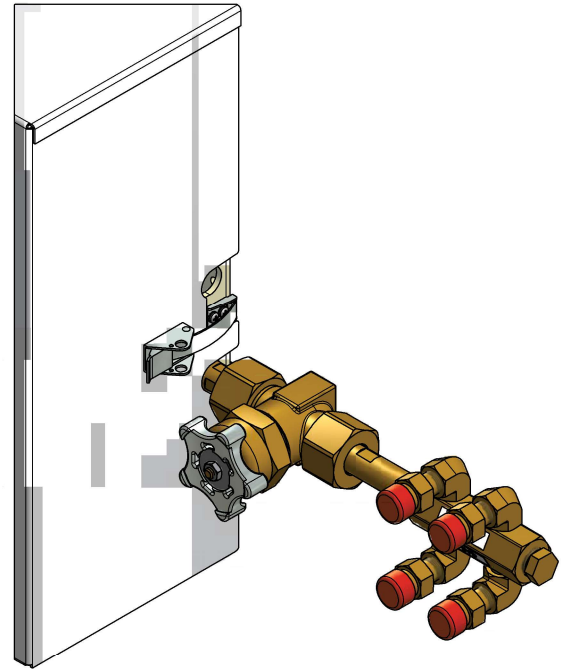
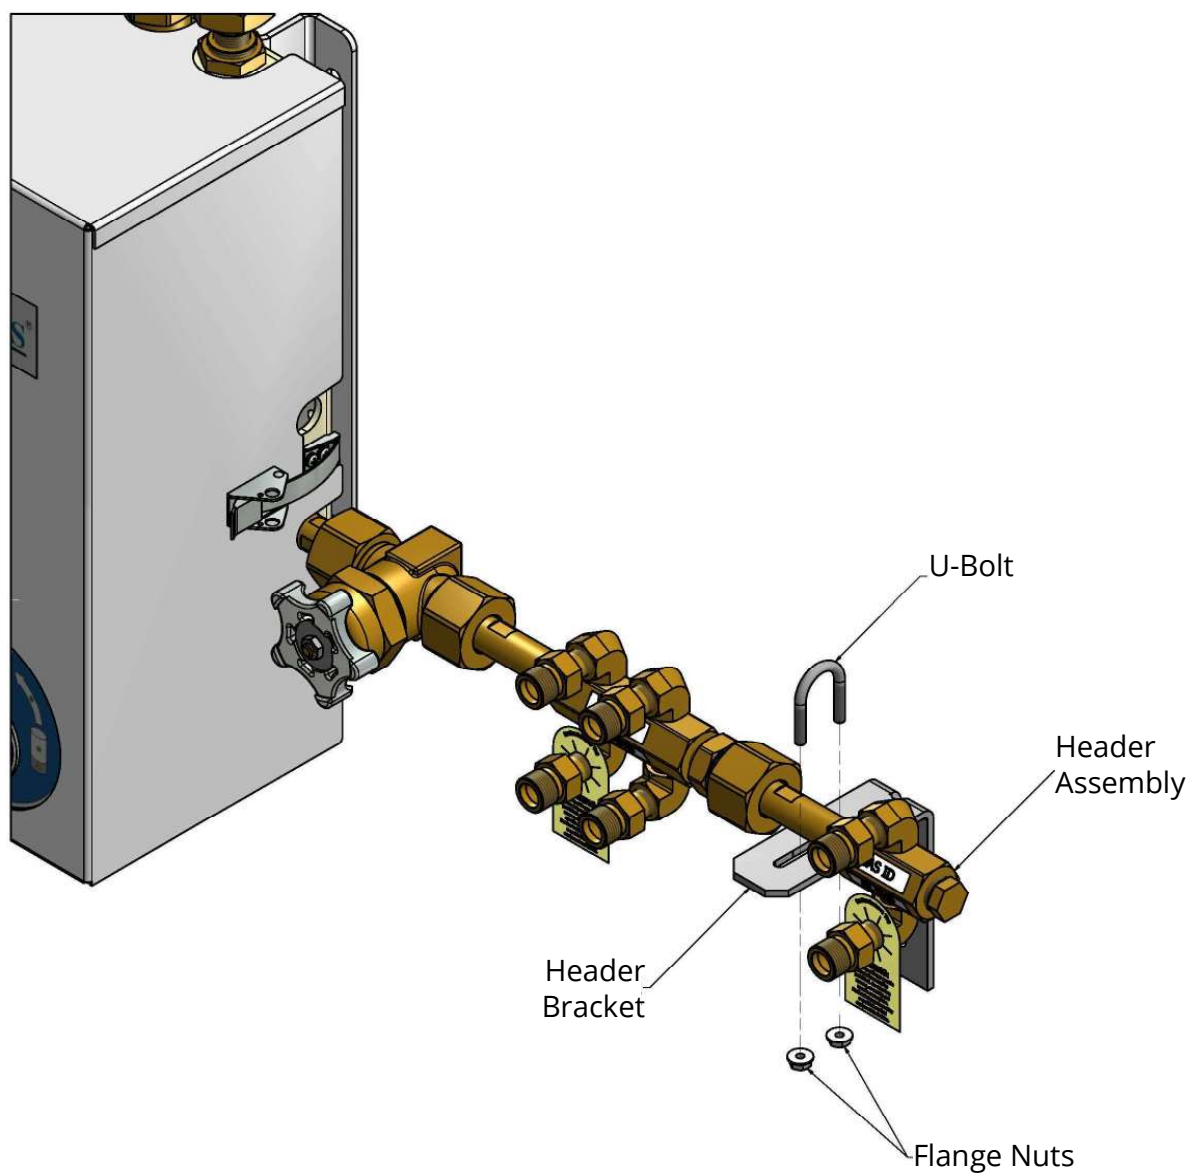
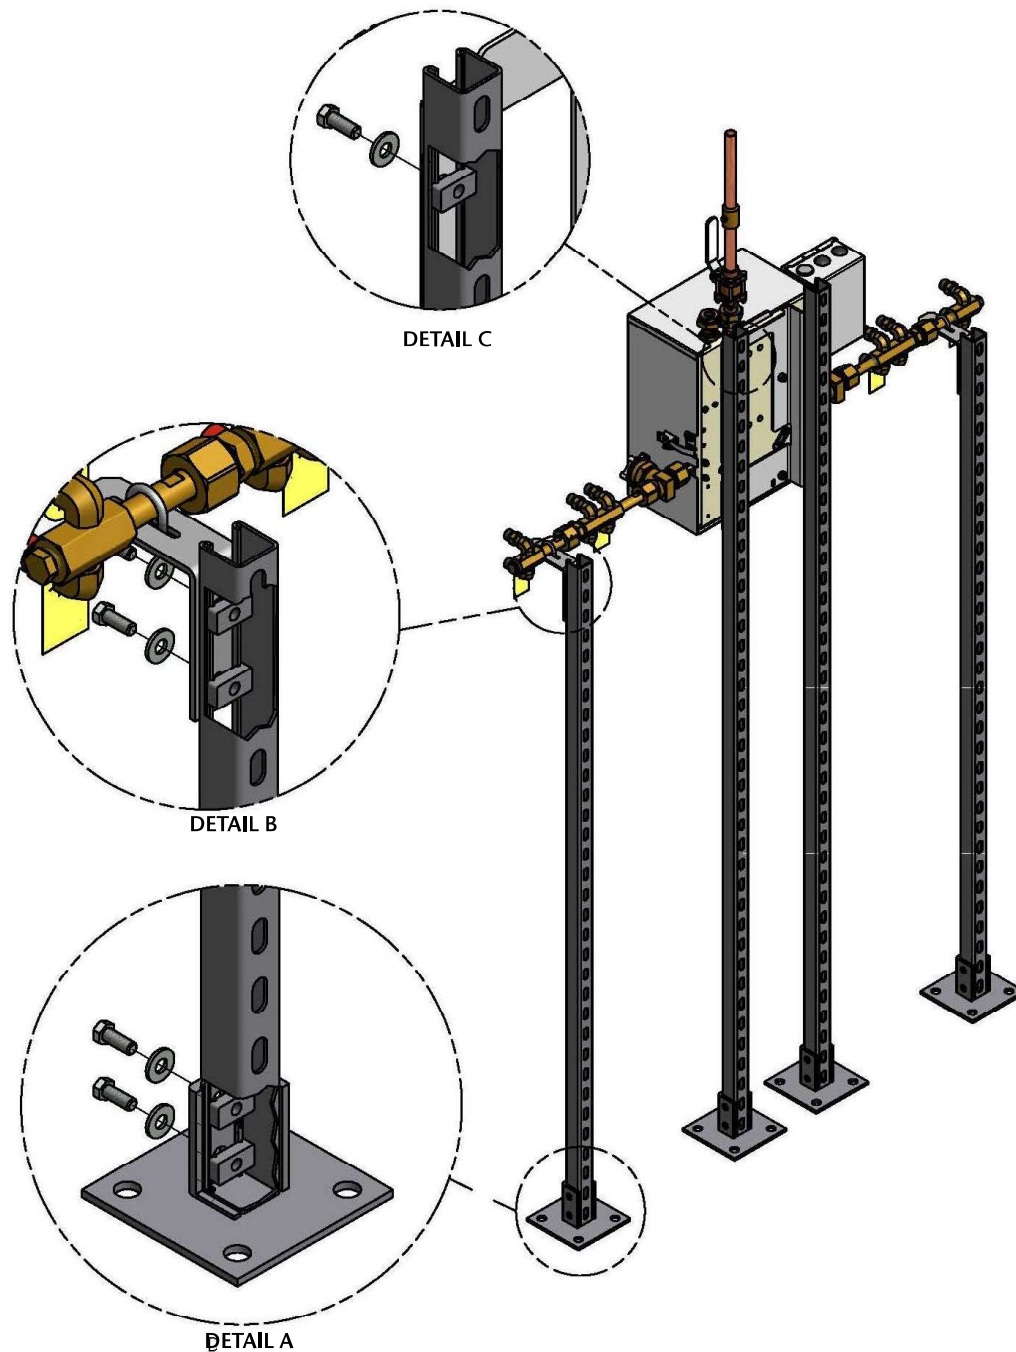

Figure 4
Figure 5
Figure 8
8. For all manifolds, additional shipping cartons contain extension headers and header wall brackets. Attach master valve and appropriate header extension to manifold control module. Position cylinder inlet connections of each header extension so they are pointing out (away from the wall) and tighten header extension (Figure 4).
9. Each header kit greater than 5 inlets is shipped with an appropriate number of header brackets. Position bracket against wall and on bottom side of header as shown in Figure 5. Attach bracket to wall using appropriate anchors (by others). 3/8" diameter anchors are recommended.
5. Attach post base to one end of each 80-inch channel as shown in Figure 8, Detail A. Use two each 3/8" bolts, flat washers and channel nuts per base. Tighten all four bolts.
6. Stand each channel / base side by side. Attach manifold mounting bracket to both bases as shown in Figure 8, Detail C. Use four each 3/8" bolts, flat washers and channel nuts per base. Top of bracket should be level and positioned 77-1/2" above floor. Tighten all four bolts.
10. Additional cartons containing master valves and header assemblies will be shipped loose. Header wall brackets, mounting hardware and plugs will also be shipped loose for manifolds with more than five cylinders per bank. Attach the master valves and appropriate header extensions to the manifold control panel. Position cylinder inlet connections of each header extension so they are pointing out (away from the wall) and tighten header extension (Figure 4). If wall brackets are required install as necessary (Figure 5).
10. Each header extension is shipped with a header bracket. Each header bracket should be attached to a manifold header stand. Assemble each header stand by attaching a post base to one end of 66-inch channel as shown in Figure 8, Detail A. Use two each 3/8" bolts, flat washers and channel nuts. Tighten all bolts.
11. Set header stand in a vertical position roughly in alignment with two vertical control panel stands. Position header bracket against channel and on bottom side of header as shown in Figure 5. Attach bracket to channel as shown in Figure 8, Detail B. Use two each 3/8" bolts, flat washers and channel nuts. Tighten all bolts.
14. Assemble u-bolt and bracket hardware as shown in Figure 5. Tighten u-bolt nuts.